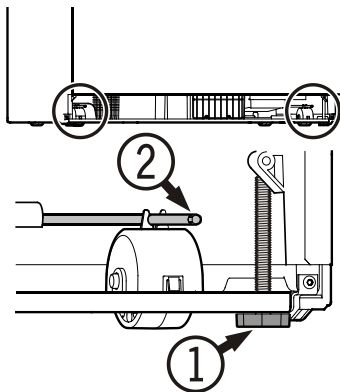

Figure 19
## Leveling the Appliance - Figure 19
To prevent the appliance from tipping forward the leveling feet ① (Figure 19) must have contact with the floor.